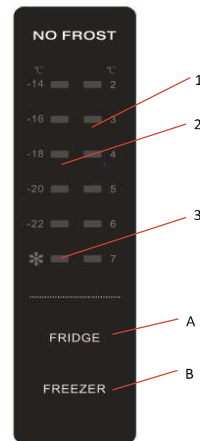

Fig. 14
- To maintain the best flavour, nourishment and freshness of foods, it is advisable to store them in the refrigerator compartment as shown in fig.14 below, making sure to wrap them in aluminium or plastic sheets or in appropriate covered containers to avoid cross-contamination.